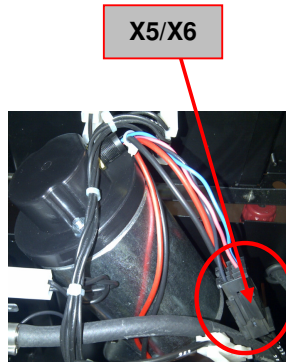

Figure 8
7. Unplug motor connectors X5/X6. See **Figure 8**.